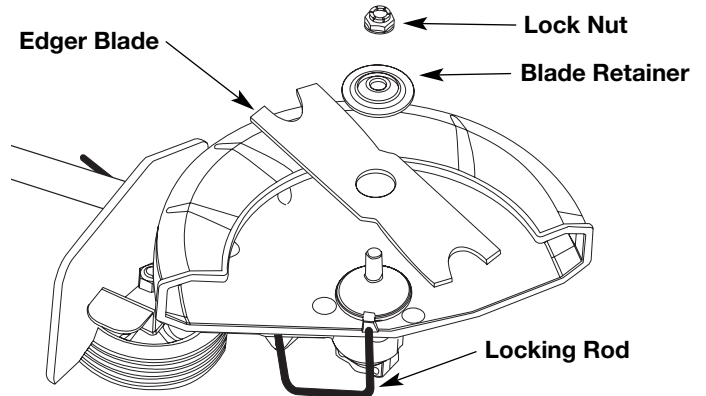
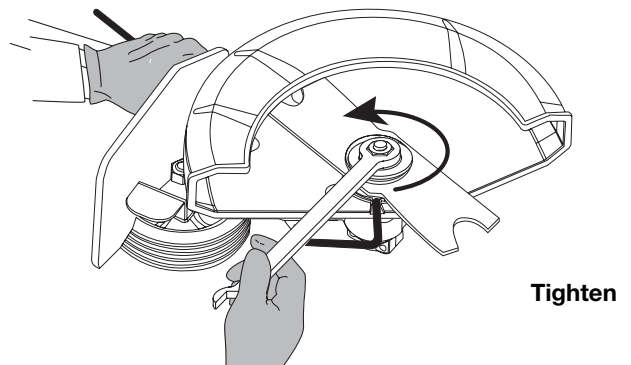

Fig. 10
Fig. 11
4. Install the new blade, blade retainer, and nut (Fig. 10). Insert the locking rod through the slot into the output shaft hole. Make sure that the blade stays flat and centered against the output shaft while tightening the lock nut counterclockwise (Fig. 11).
If you do not have a torque wrench, hold the locking rod in the slot. Rotate the nut counterclockwise with a 13 mm closed-ended or socket wrench, until the nut presses against the washer and the blade is snug. Make sure the blade assembly is installed correctly, then rotate the nut an additional 1/4-1/2 turn (Fig. 11).